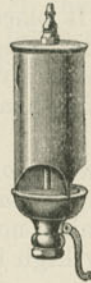

Fig. 109. Chime Whistle.
A. There is an inverted cylinder, cup or bell of thin metal, with a sharp circular edge, against which an annular sheet of steam is discharged from an annular orifice; the force of the escaping steam causes the bell or cup to vibrate and give out a musical tone, the pitch of which depends on the diameter and the depth of the cup. (Fig. 109.)